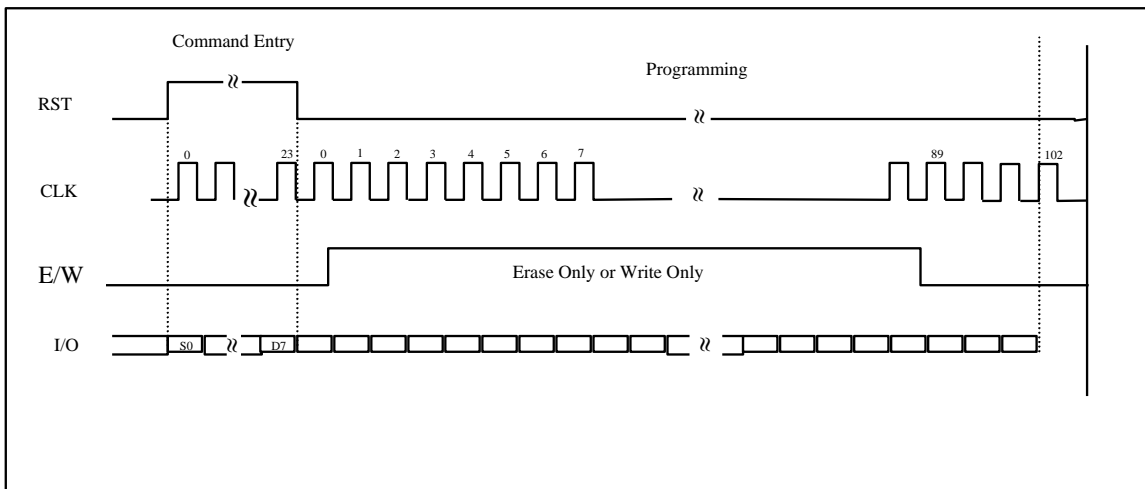

Figure 9: Programming Erase Only or Write Only
2. Write only if 103 clock pulses at  $f < 20\text{KHz}$  are applied. This operation is only suitable if single bit of one byte shall be change only from 1 to 0. (See Figure. 9)
3. Erase only if the input data = FFH and 103 clock pulse at  $f < 20\text{KHz}$  are applied. (See Figure. 9).
The write protect bit with data comparison command writes 0 to the corresponding protect bit only if the input data and the data in the specified memory location are the same. After the protect bit is set to 0 (write protection is enabled), it cannot be changed again. (See Figure. 9).